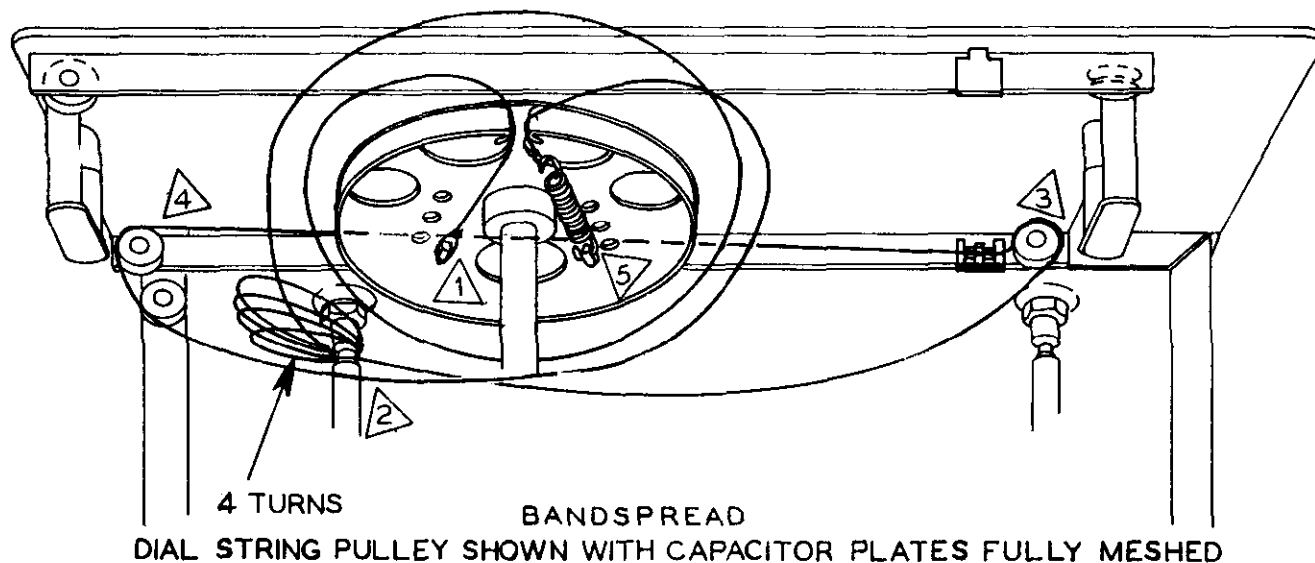

Figure 27
Refer to Figures 27 and 27A for the following steps.
- ( ) Referring to Figure 27, tie a small loop in one end of the dial cord. Hook this loop over the bandspread pulley lug marked  $\triangle 1$ . Carefully follow Figure 27 and run the dial string counterclockwise around the pulley one complete turn. Now pass the dial cord around the tuning shaft counterclockwise four complete turns. Run the dial cord around the pulley marked with a  $\triangle 3$ , as shown. Continue the dial cord around pulleys marked  $\triangle 4$  and back to the main dial pulley. Make one half turn around the dial pulley counterclockwise and fasten to the dial cord spring. Hook the spring over the lug marked with  $\triangle 5$ . Make certain that the dial cord has tension on it. The spring should be